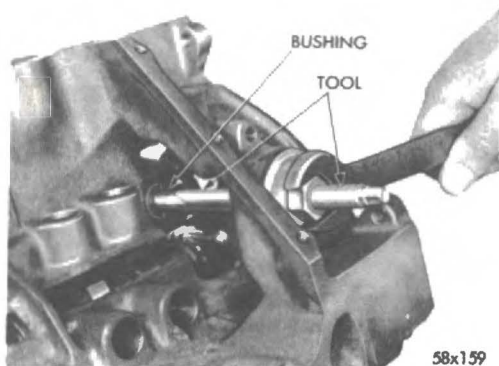

Fig. 22 Removing Distributor Drive Shaft bushing Using Tool CA-3052
(1) Insert Tool CA-3052 into the old bushing and thread down until a tight fit is obtained. (Fig. 22).
(2) Hold the puller screw and tighten puller nut until the bushing is removed.